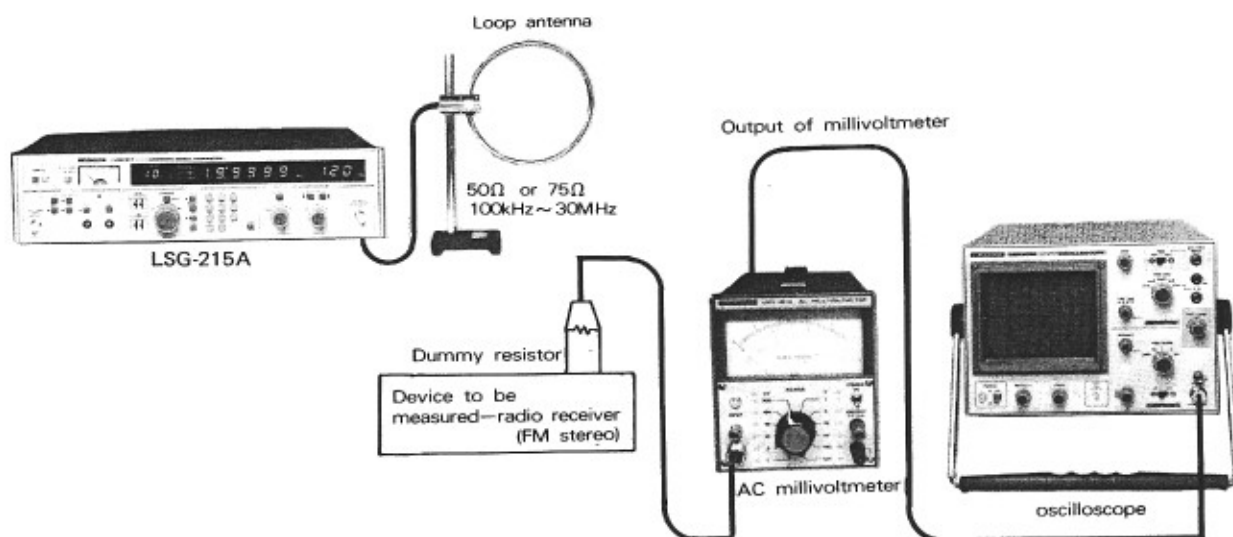

Fig. 8-5 Connection diagram of radio receiver for measurement
The LSG-215A is used in connection as shown in Fig. 8-5. Measurement examples of AM/FM receivers are described as practical cases. The measurement methods are based on the JIS specifications.
- (1) Connect as shown in Fig. 8-5. Set the radio receiver to AM mode.
- (2) Set the instrument to LOCAL by the (16) LOCAL mode.
- (3) Set the output level to 35 dB using the (9) 10 dB output level key and the (10) 1 dB level switch.
- (4) Set the RF frequency to 1.0 MHz using the (15) ten keys or (12) FREQ UP/DOWN switches.
- (5) Select AM modulation by the (23) AM key.
- (6) Turn on the modulation by the (27) MOD ON/OFF key.
- (7) Set the internal modulation to 400 Hz by the (29) 400 Hz key.